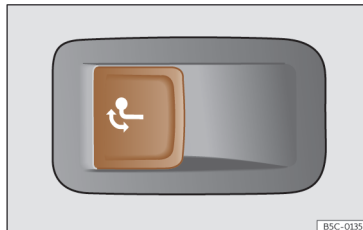

Fig. 196 Left side of the luggage compartment: button to unlock the tow hitch.
- Pull the >>> **Fig. 196** button briefly. The tow hook unlocks electrically and automatically turns outwards. The button's control lamp flashes.
- Pull the >>> **Fig. 196** button briefly. The tow hook unlocks electrically.
• Never press the button >>> **Fig. 196** when there is a trailer hooked to the vehicle or when a carrier system or other accessories are mounted on the tow hook.